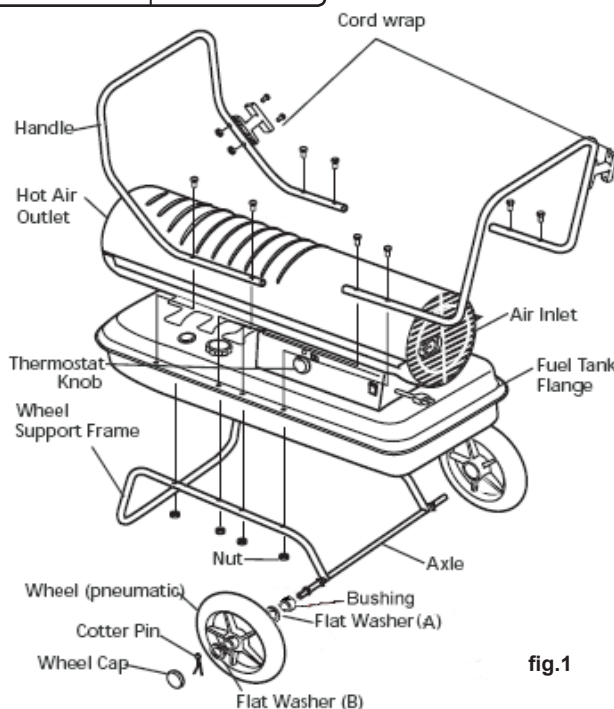

fig.1
- Slide axle through wheel support frame, slide a bushing and flat washer (A) to each end of the axle.
- Install wheels with valve stem on the outside, slide flat washer (B) onto the axle and then using a cotter pin bend the legs of the pin with pliers to secure. Snap on the wheel caps onto the flat washer (B).
- Attach the cord wraps onto the front and rear handles as shown in fig.1 using screws and nuts.